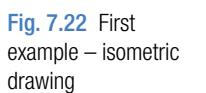

Fig. 7.22 First example – isometric drawing
### First example – isometric drawing (Fig. 7.22)
5. Set the isoplane to **Isoplane Right** and with the **Copy** tool, copy the top with its ellipse vertically downwards 3 times as shown in **Fig. 7.22**.
7. Finally using **Trim** remove unwanted parts of lines and ellipses to produce **Fig. 7.22**.